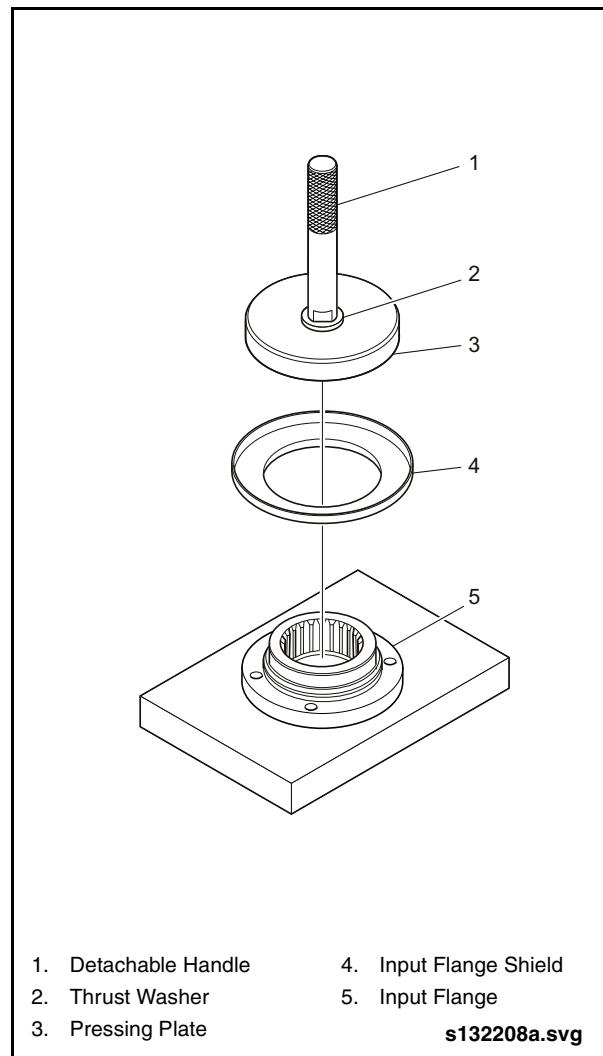

Fig. 2-36: Installing Input Flange Shield
2. Press the new shield onto the input flange as far as possible. *See "Fig. 2-36: Installing Input Flange Shield" on page 36.*